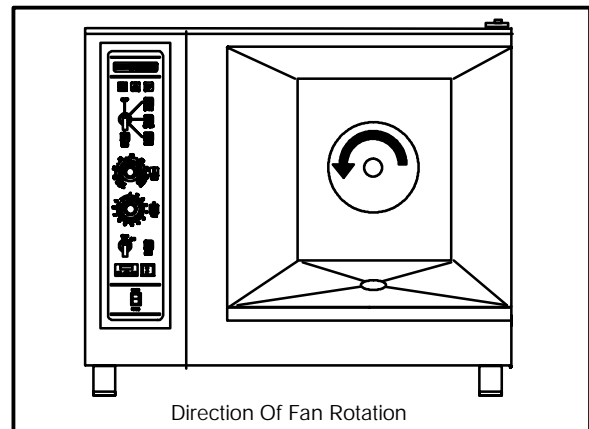

Figure 5
**CAUTION:** on 480V units, the fan should be checked to ensure the proper rotation after connecting the appliance. See Figure 5. If the fan turns in the wrong direction, the appliance will not function properly and damage to the unit can occur. Improper connection of the appliance renders the warranty invalid.